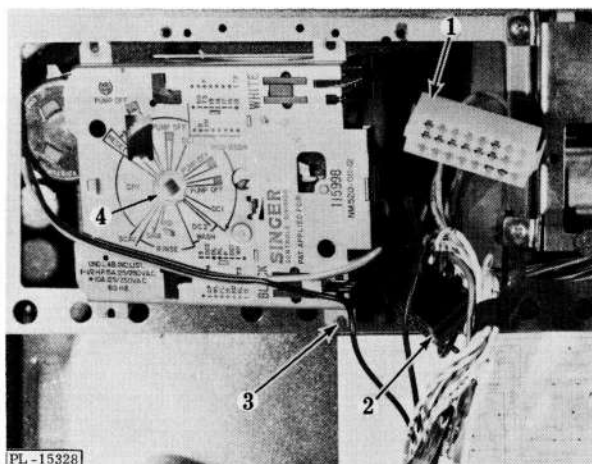

Fig. 14
TIMER (KDS-18, "SUPERBA") (Fig. 14)
With the KDS-18 (SUPERBA) dishwasher, the timer has a dial face printed around the timer socket (4, Fig. 14). The notch on the socket points to the part of the cycle in which the timer is then operating. Check timer operation by comparing it with the operation of the components programmed for each part of that cycle.
2. Remove four timer bracket retaining screws (3, Fig. 14).
3. Remove timer and disconnect electrical plugs (1, Fig. 14) (white) and (2, Fig. 14) (black).